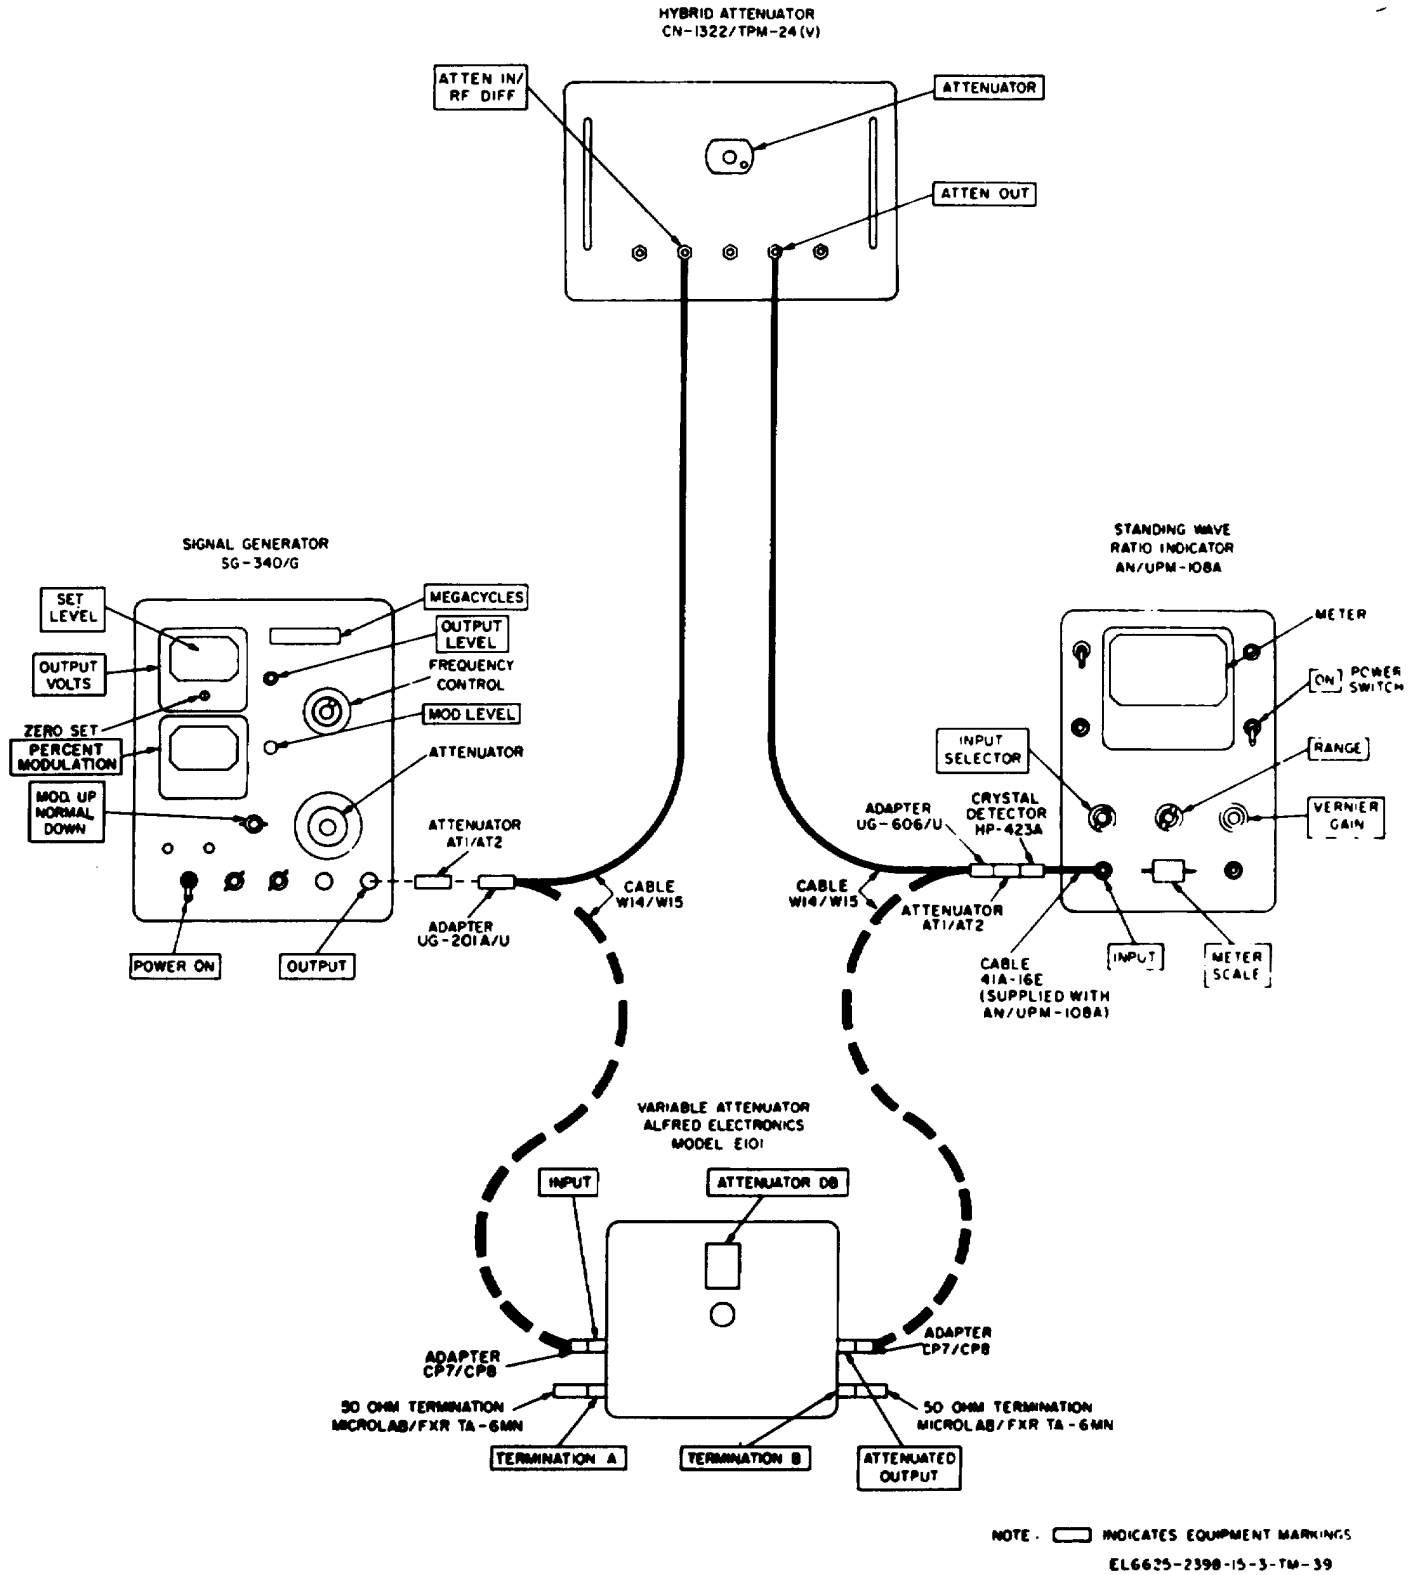

Figure 8-5. Hybrid attenuator calibration, test connections.
- (2) Variable Attenuator, Alfred Electronics Model E101.
- (3) Standing Wave Ratio Indicator AN/UPM-108A.
- (4) Crystal Detector HP-423A.
- (5) Adapter UG-201A/U.
- (6) Adapters CP7/CP8(2).
- (7) Fixed Attenuators AT1/AT2(2).
- (8) 50-ohm Terminations (2), Microlab/FXR TA-6Mn.
- (9) Cables W14/W15(2).
- (10) Cable A1W3.
- (11) Adapter UG-606/U.
b. *Test Connections and Conditions.* Initially connect the equipment as shown in solid lines, figure 8-5. Disconnect the hybrid attenuator and connect the variable attenuator (connections shown in broken lines) as directed in the procedure below.